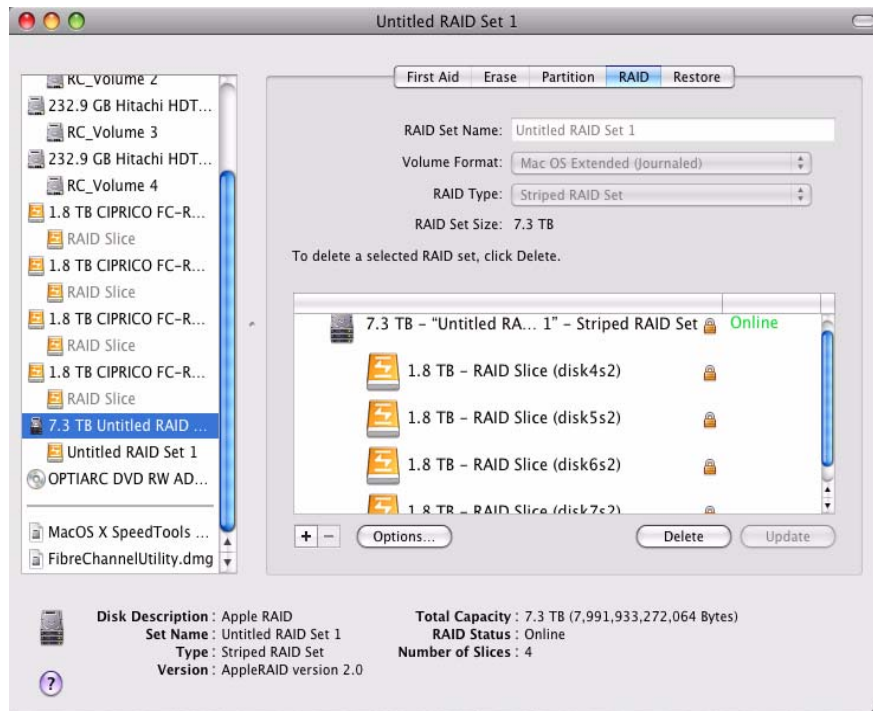

FIGURE 6-14. The Apple Disk Utility Screen, Showing the Striped RAID Set.
12. When the creation process is finished, the *Apple Disk Utility* screen displays icons similar to the ones shown in this example. See Figure 6-14.